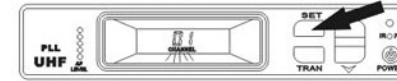

FIGURE 13
a. Press SET button, the CHANNEL display will flash (Figure 13)